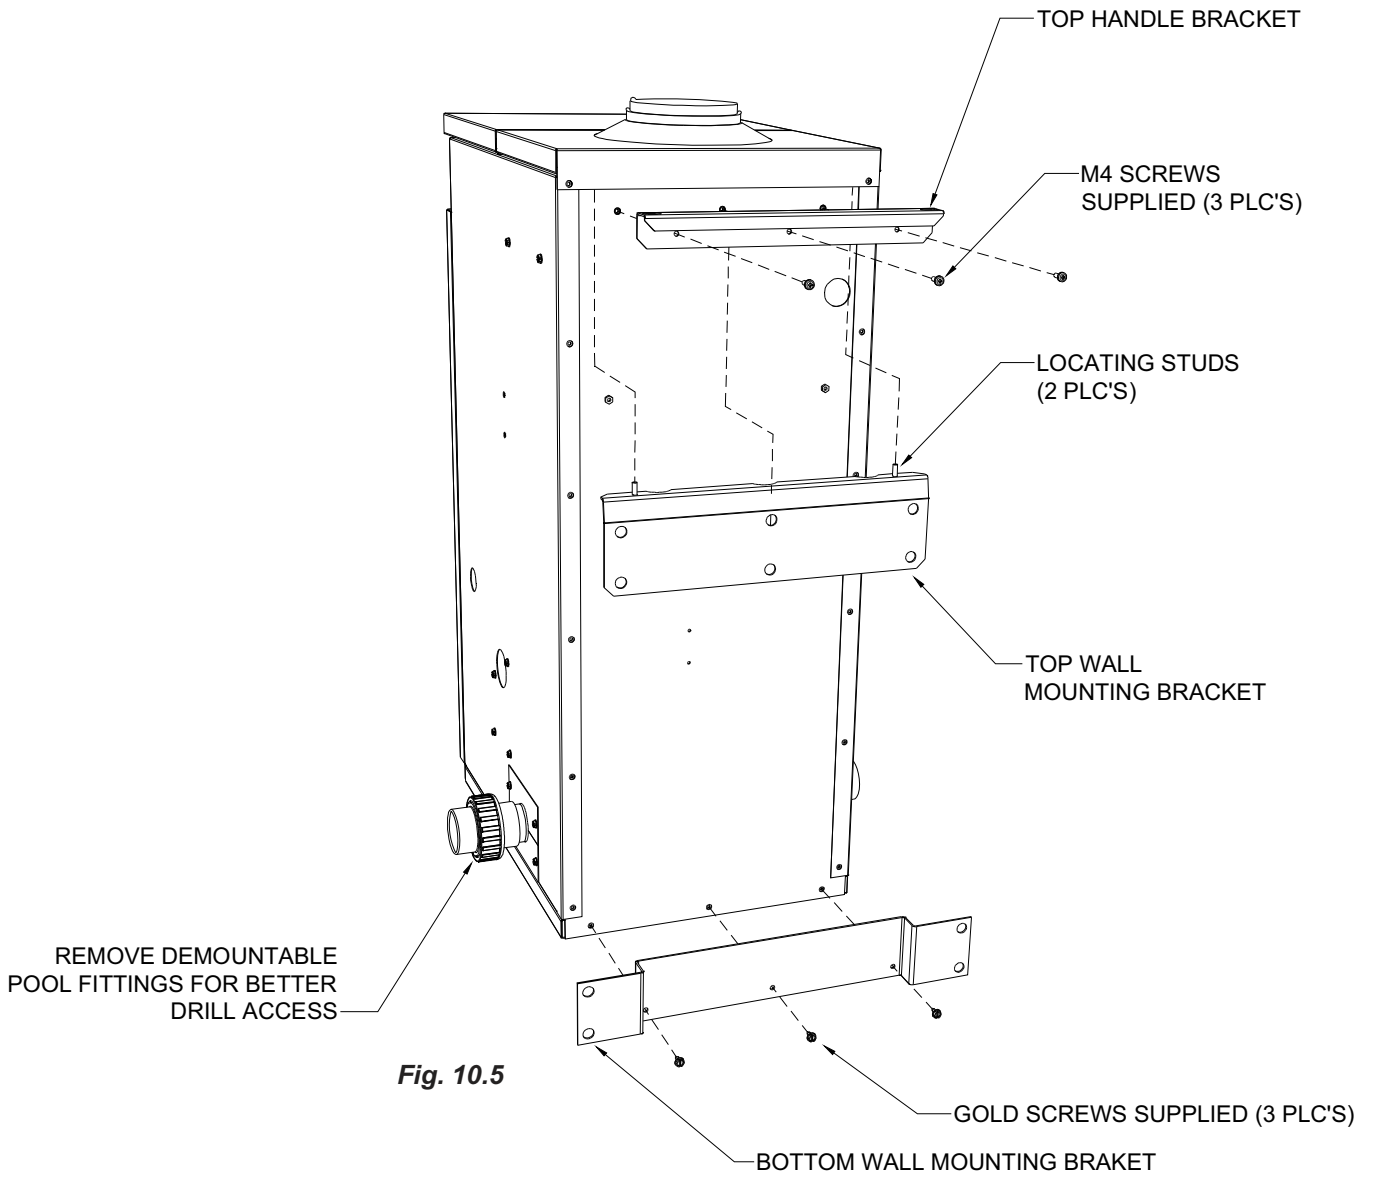

Fig. 10.5
- Attach the Top Handle Bracket to the rear of the Heater by using the three M4 screws supplied. (**Fig 10.5**)
- Attach the Bottom Wall Mounting Bracket to the rear of the Heater by using the existing three screws that fix the base to rear panel. (**Fig 10.5**)